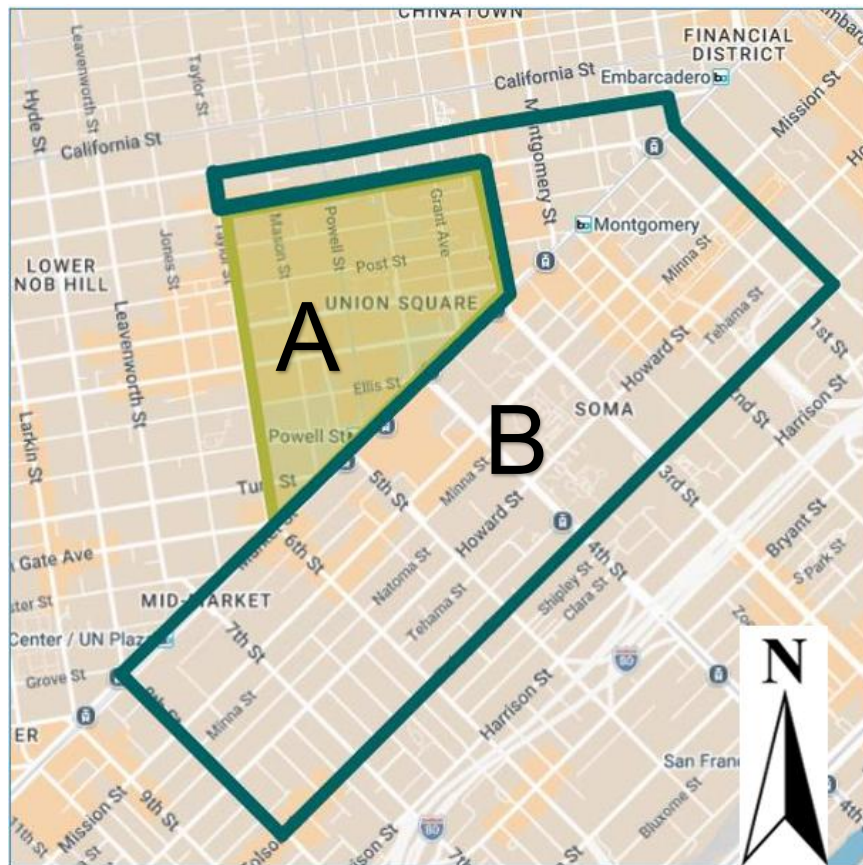

Figure 2.1: Downtown Holiday Restrictions Boundaries
2. **SF Downtown Streets Within Shown in Figure 2.1 Downtown Holiday Restrictions Boundaries area “A”:** Holiday Moratorium restrictions do not apply to tenant and property owner initiated minor construction projects such as installation of commercial signage, interior tenant improvements, storefront repairs and holiday installations which impact the street and/or sidewalk for no more than 3 days. This area is bounded by Pine Street, Taylor Street, Market Street and Kearny Street, inclusive of both sides of those streets.
3. **SF Downtown Streets Within Shown in Figure 2.1 Downtown Holiday Restrictions Boundaries area “B”:** The Holiday Moratorium restrictions do not apply to area “B” of the map. A moratorium waiver is not required to work in this section of the map. This area is bounded by California Street, Front Street, Fremont Street, Folsom Street, 8th Street, Market Street, Kearny Street, Pine Street and Taylor Street **except** the portions of Market Street, Kearny Street and Pine Street which border area “A”, which are part of area “A” and are subject to area “A” moratorium requirements.